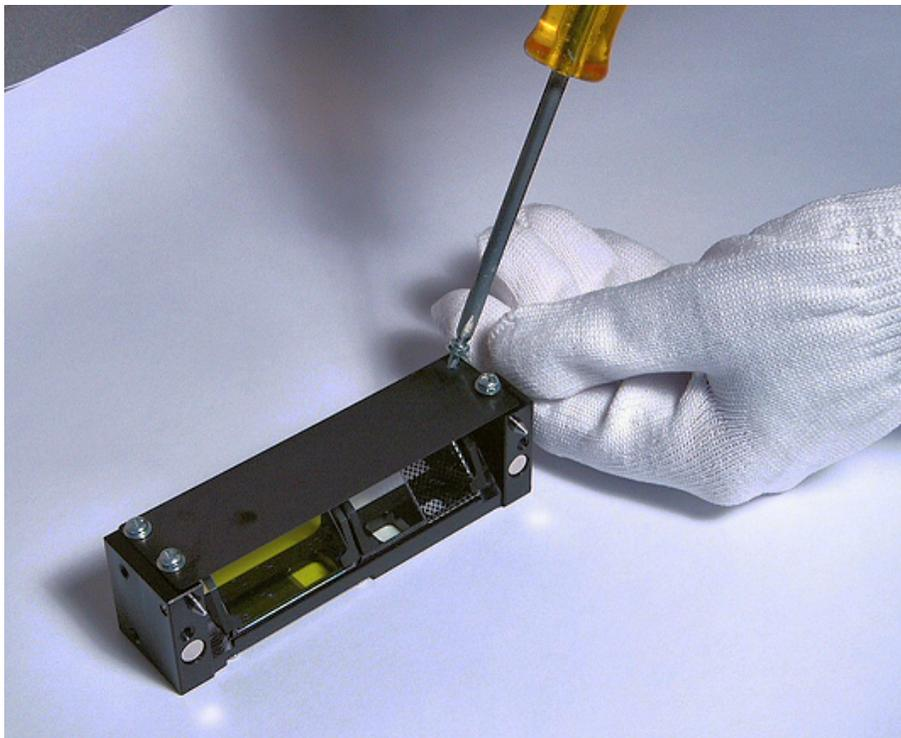

Figure 4-8: Removing the light shield from the mirror holder
① Touch the mirrors as minimally as possible; hold them by their edges only. The mirrors are easily damaged.
2. The holder has a light shield to protect the mirrors (Figure 4-8). Use a screwdriver to remove the four screws and washers that attach this shield to the holder.